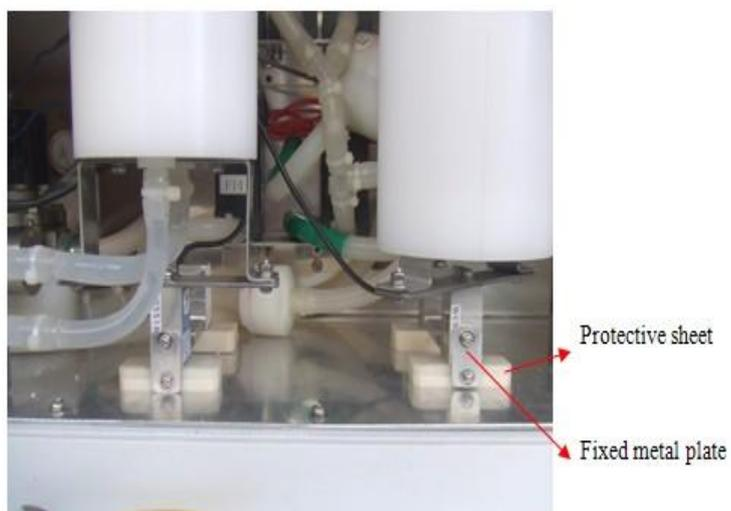
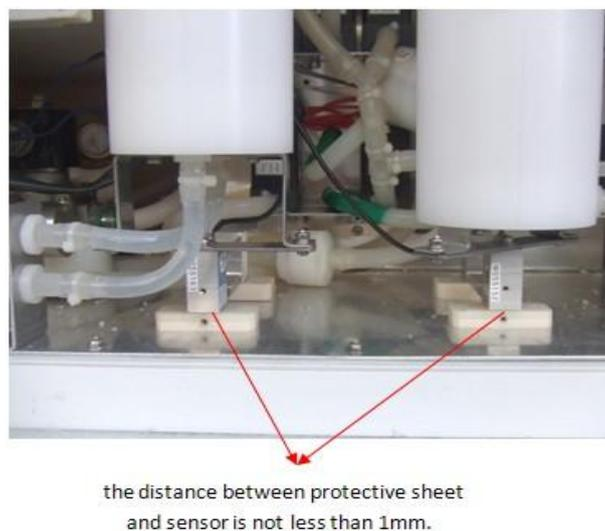

Figure 8-3
Figure 8-4
8.4 Remove 4 screws on the protective sheets and sensors and take off the fixed metal plate shown in Figure 8-3, Figure 8-4. Please note that the distance between protective sheet and sensor is not less than 1mm. (Figure 8-4).